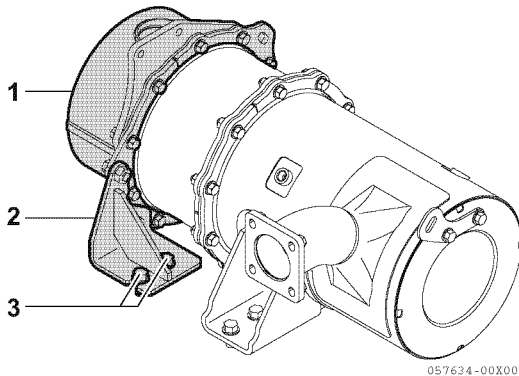

Figure 13-12
- Remove the silencer (or outlet flange) (Figure 13-12, (1)) side DPF stay (Figure 13-12, (2)) and the M10 bolts (2 pcs.) (Figure 13-12, (3)) that affix the flywheel housing. Leave the stiffener attached to the DPF stay.